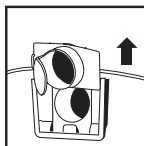

FIGURE 27
50. Remove the inlet deflector from the deflector guide. **NOTE:** Hose must be removed before the inlet deflector can be taken out. **FIGURE 27.**